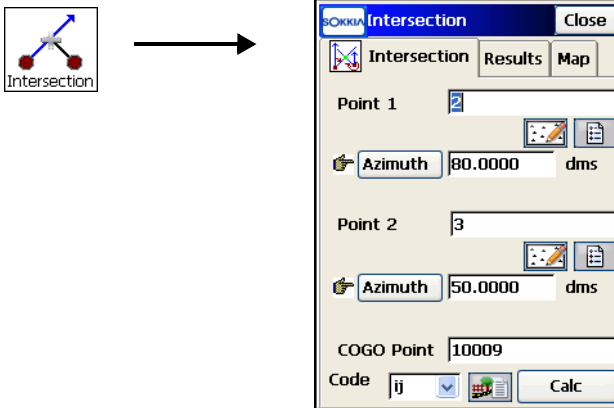

Figure 10-5. Intersection
1. On the *Intersection* screen (Figure 10-5), select the points for the task from map or from the list.